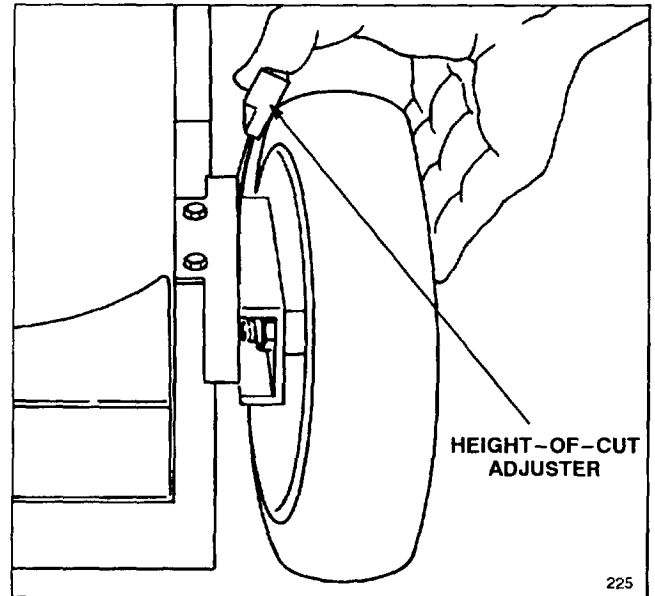

Figure 17
2. For easier adjustment, lift housing up so wheel is off ground. **Do not place hands under deck to lift housing.** Squeeze adjusting lever toward wheel (Fig. 17) and move it to the desired setting. Assure pin on adjusting lever engages notch in mower housing wear plate. Adjust all wheels to the same setting.